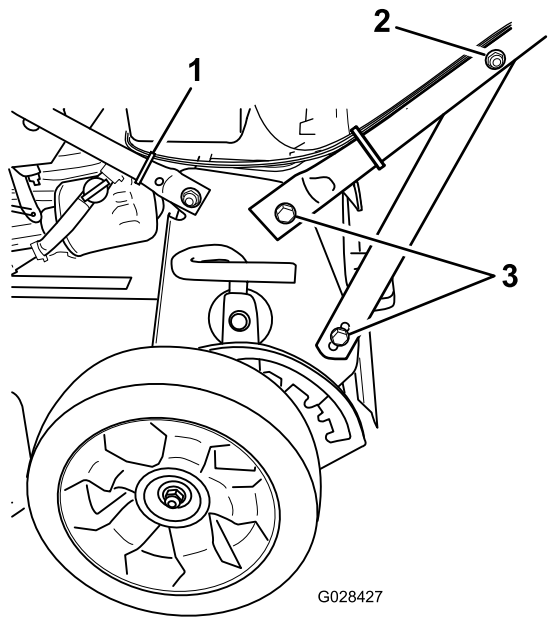

Figure 4
2. Nut on handle support bracket (2)
3. Bolt (4)
5. Use a cable tie to secure the cables to the lower handle in the location shown in Figure 4.
4. Tighten the fasteners that support the handle on both sides of the machine as shown in Figure 4.